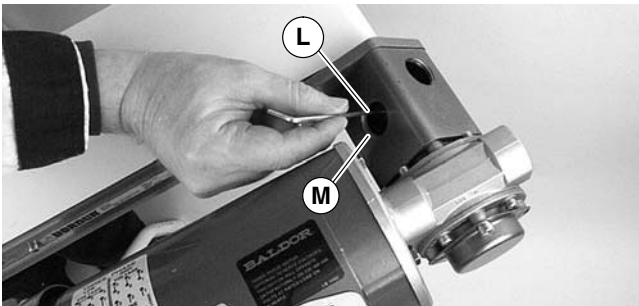

Figure 16
- Jog motor and rotate coupling to align set screw (Figure 16, item L) with access hole (M). Tighten to 32 in-lb (3.7 N-m). Repeat for second set screw.
2. Jog motor and rotate coupling to align set screw (Figure 16, item L) with access hole (M). Loosen set screw. Repeat for second set screw.